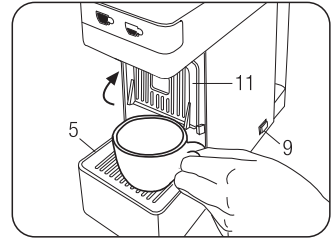
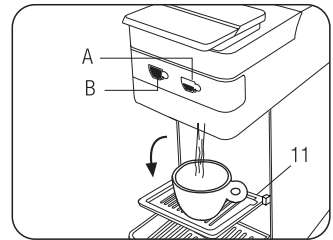

Fig. 5
Fig. 6
- Ensure that there are no capsules inside; power on the machine via the main switch (on the back) (9)
- Place a large empty cup under the coffee spout. **(Fig. 5)**
When the buttons (A) and (B) appear with a fixed light the machine is ready for use. Press a button (A) or (B); the machine dispenses water, press the button again when you have obtained the desired amount of water **(Fig. 6)**.
To make an espresso using button (A) (small cup), place the rack (11) as in Fig.6. When tall cups are needed, place the rack (11) as in Fig.5, and place the cup directly on the rack (5) (Fig.5)